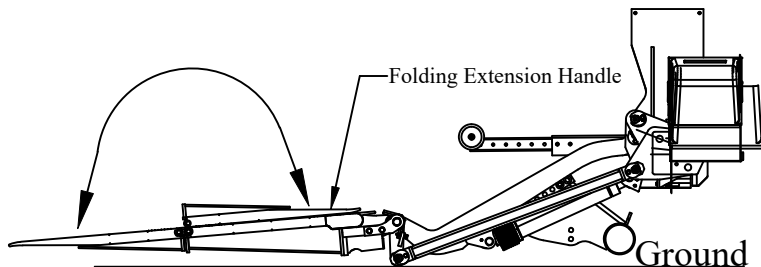

Figure 4: Steps 7 and 13.
- Step 7. Stand off to the side and unfold the platform folding extension (Figure 4).
- Step 11. To close the platform, stand to the side of the platform, not under or behind the platform. With the liftgate lowered, close and lock the platform cart stops, if so equipped, then fold the folding extension by lifting on the handle (Figure 4).